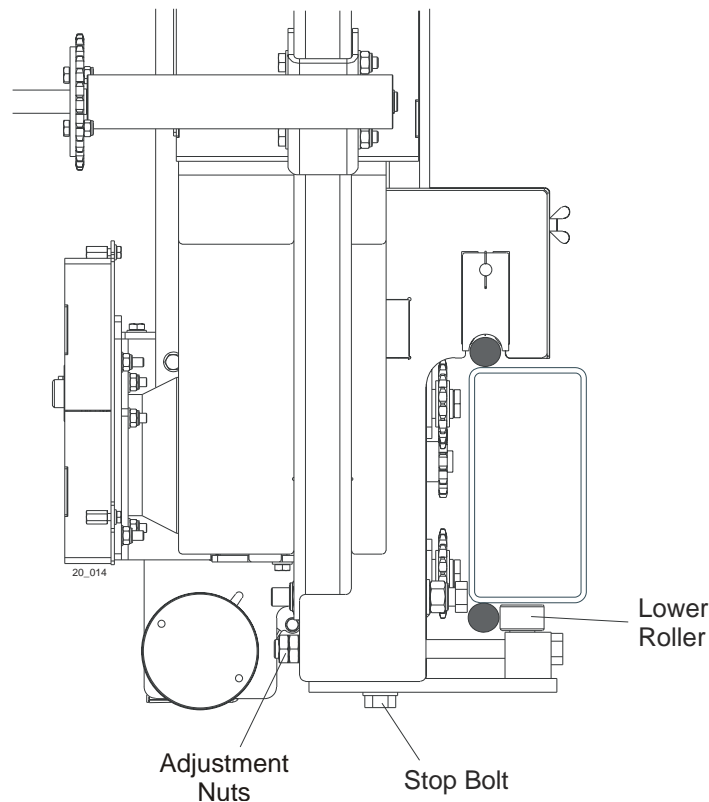

**FIG. 5-8**
**See Figure 5-8.** Use the horizontal adjustment screw to adjust the drive-side blade wheel. Loosen the jam nut on the adjustment screw. Loosen adjustment screw to move blade out on wheel. Tighten